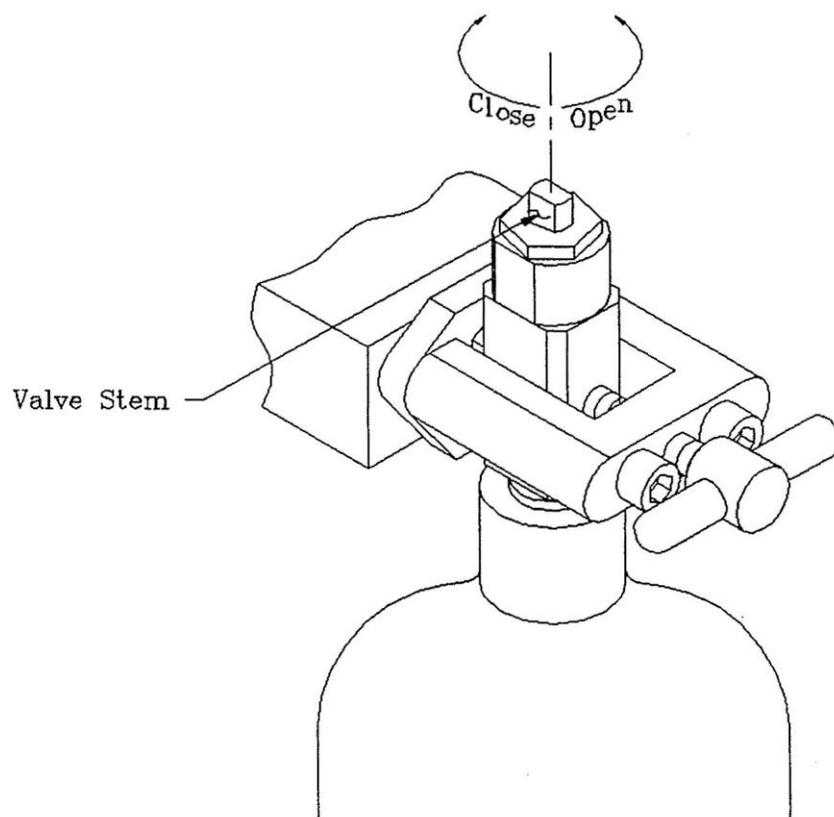

Figure 25
B. Cylinder Mounting (see fig 25)
2. For portable systems utilizing "E" cylinders tanks, refer to Figure 25.